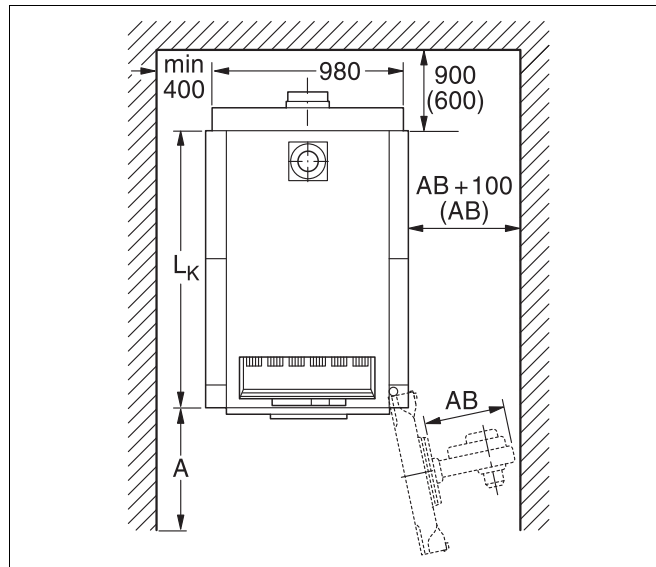

Fig. 6 Boiler room with boiler (dimensions in mm)
- We recommend you maintain the indicated clearance between boiler and walls, which is required in order to be able to install the boiler and for opening the burner door, as well as for cleaning and maintaining your system (→ Fig. 6 and table below).
If a front clearance less than the recommended dimension A (Fig. 6) is chosen, you will not be able to clean the boiler with the optional cleaning kit. As an alternative we would recommend the use of shorter (length approx. 1 m) cleaning devices or wet cleaning.
- When casting the foundation, note the side to which the burner will be pivoted (burner door hinged on the r.h. or l.h. side, Fig. 6, page 16).